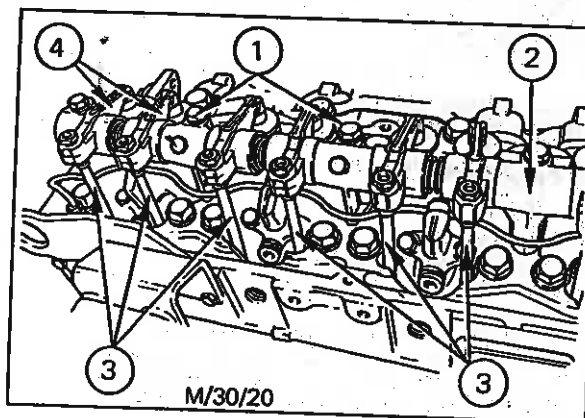

Fig. 13 - Removing Rocker Shaft Assembly
3. Slacken each rocker shaft pedestal retaining bolt approximately one turn at a time until all are loose, then remove them - see Fig. 13.